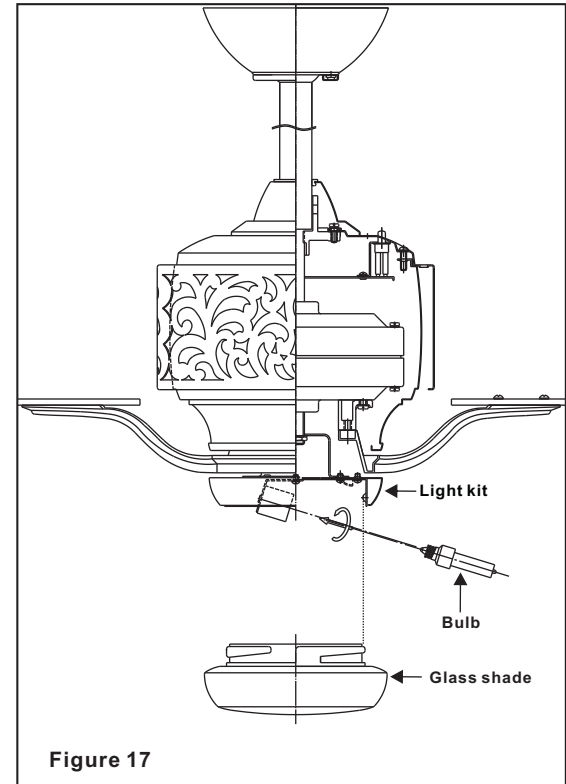

Figure 17
2. Raise glass shade up against bottom of fan housing and secure it to fan by twisting glass clockwise until snug. **DO NOT OVERTIGHTEN.** (Fig. 17)